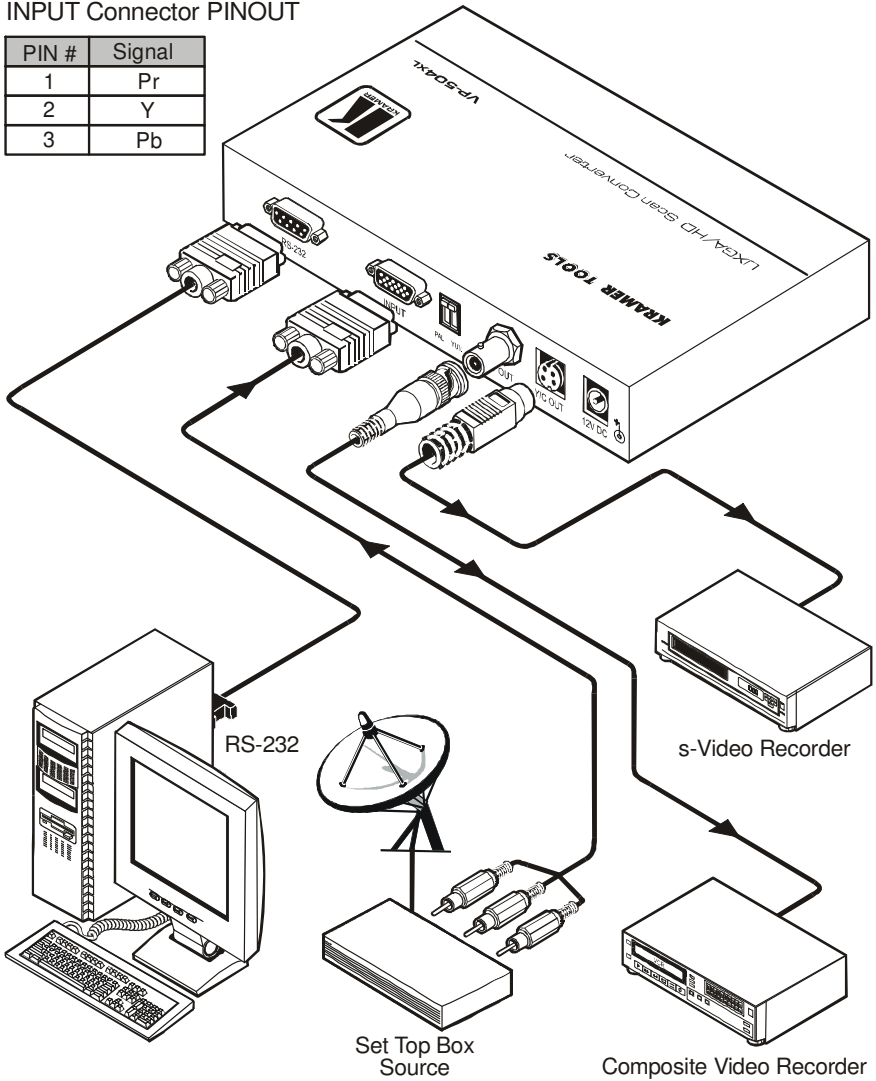

Figure 6: Connecting the VP-504xl
To connect your **VP-504xl** as the example in Figure 6 illustrates, do the following1:
5. Connect the 12V DC power adapter to the power socket and connect the adapter to the mains electricity (not shown in Figure 6).
2 To connect a high definition source, use a breakout cable such as the Kramer C-GM/3RVF. If you have a VGA to a 5BNC cable, use the RGB wires only. For direct wiring, see the table in Figure 6